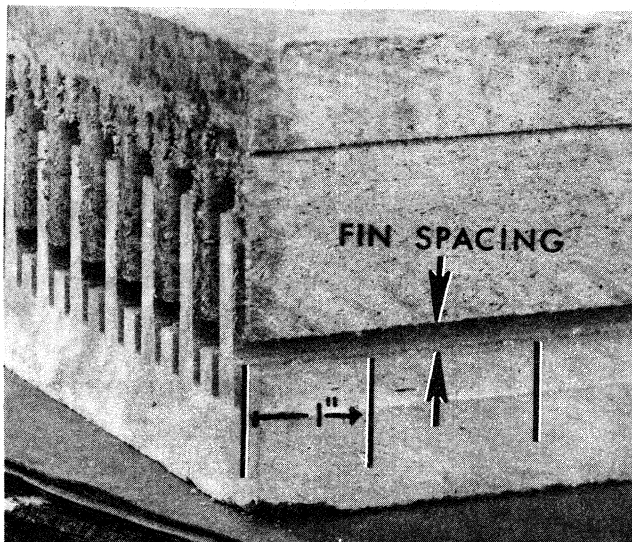

Figure 21. (8029373) Arc Chute Fin Spacing
2. The gap between the fins at the rear of the arc chute sides measured at least 1" in from the back end of the arc chute (See Figure 21) should be $\frac{3}{64}$ " to $\frac{3}{32}$ " on the "-4" design and 0 to $\frac{1}{16}$ " on the "-6" design interrupter.